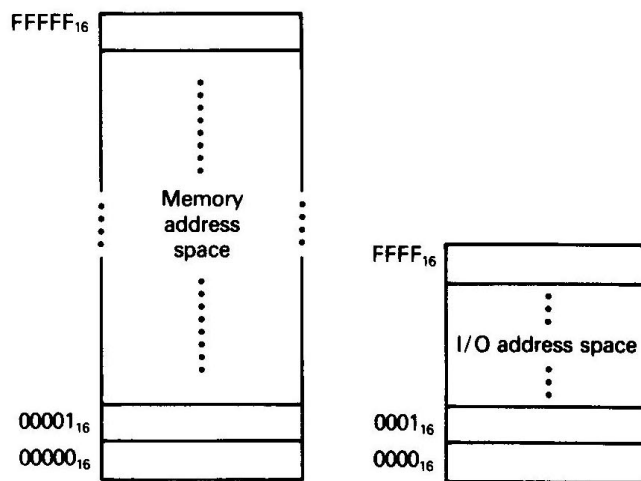

Figure 8-44 8088/8086 memory and I/O address spaces.
- **Isolated Input/Output:** In this scheme, the I/O devices are treated **separate from** memory (see **Fig. 8-44**). I/O ports are organized as **bytes of data**; the memory address space contains 1M consecutive byte addresses in the range 00000_H through $FFFFFF_H$; and the I/O address space contains 64K consecutive byte addresses in the range 0000_H through $FFFF_H$.